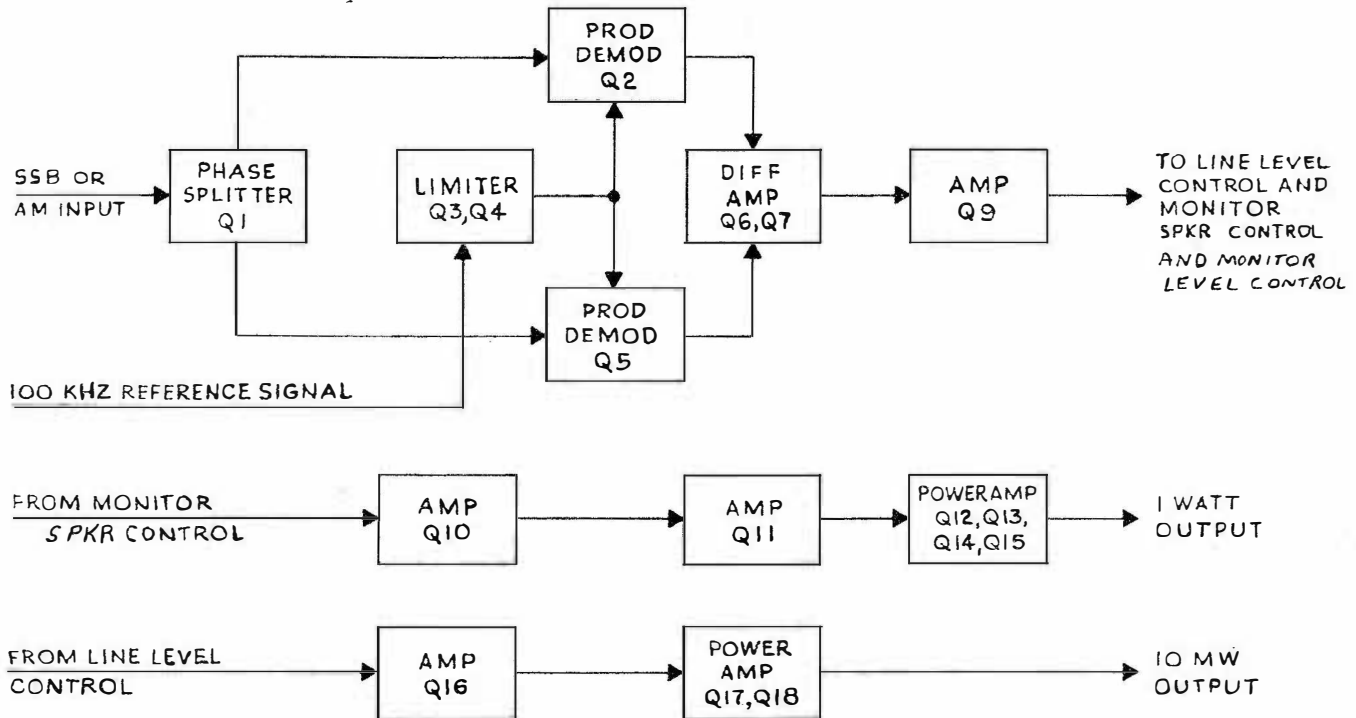

Figure 4-3. Channel A Audio Card Block Diagram
b. CHANNEL A AUDIO CARD (See Figure 4-3). - The information signal is applied to a phase splitter whose outputs to the balanced product demodulator are 180° out of phase with each other. A 100 kHz reference signal is applied to a two stage amplifier-limiter and the output is applied to the product demodulator. Each audio output from the balanced product demodulator is applied to one input of a differential amplifier. The audio frequency output from the differential amplifier is filtered and applied to the next stage where it is amplified and sent to the LINE LEVEL, MONITOR SPKR, and MONITOR LEVEL controls. The output of these controls go through amplification stages to produce 1 watt and 10 milliwatt outputs.